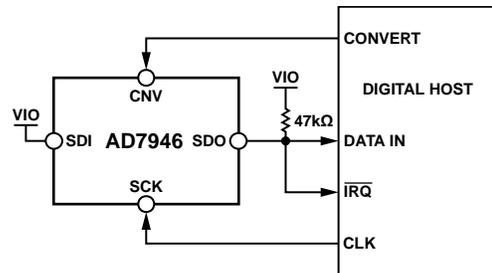
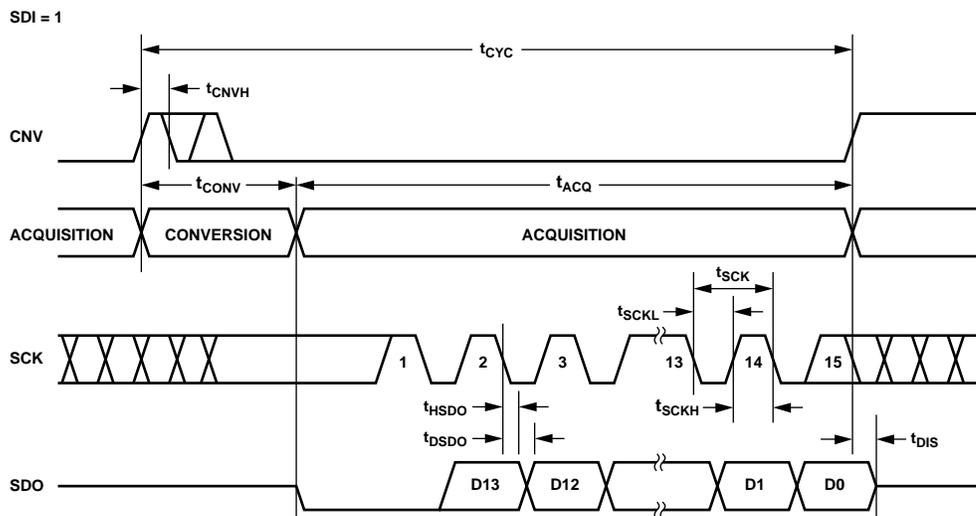
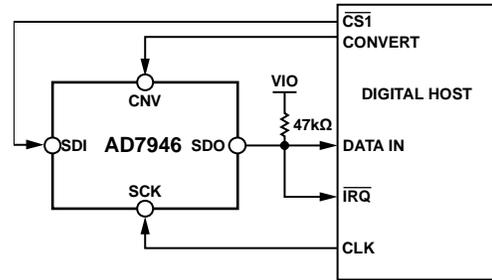
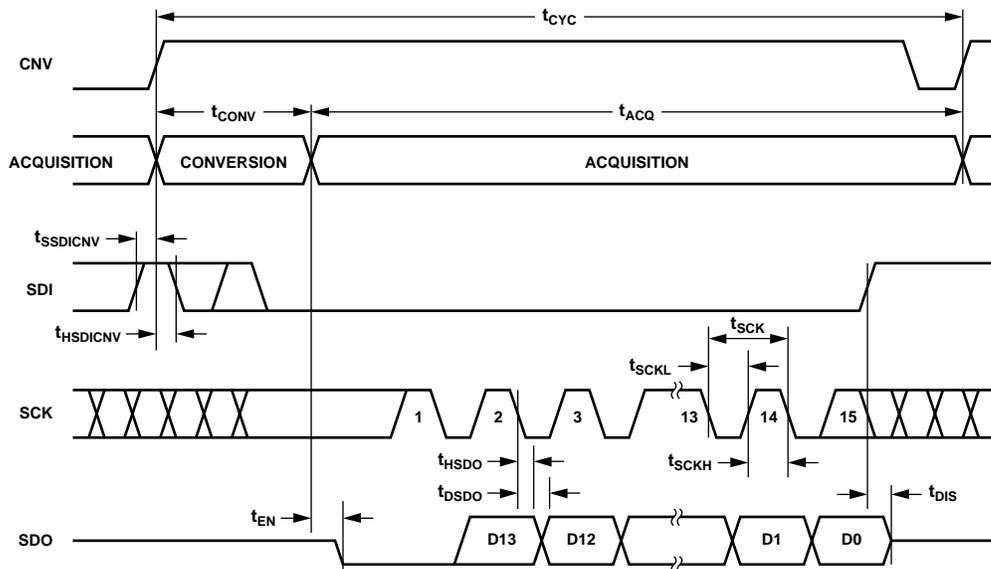

Figure 35.  $\overline{\text{CS}}$  Mode 3-Wire with BUSY Indicator Connection Diagram (SDI High)
Figure 36.  $\overline{\text{CS}}$  Mode 3-Wire with BUSY Indicator Serial Interface Timing (SDI High)
Figure 39. CS Mode 4-Wire with BUSY Indicator Connection Diagram
Figure 40. CS Mode 4-Wire with BUSY Indicator Serial Interface Timing
- In  $\overline{\text{CS}}$  mode, if CNV or SDI is low when the ADC conversion ends (see Figure 36 and Figure 40).
The connection diagram is shown in Figure 35, and the corresponding timing is given in Figure 36.
The connection diagram is shown in Figure 39, and the corresponding timing is given in Figure 40.